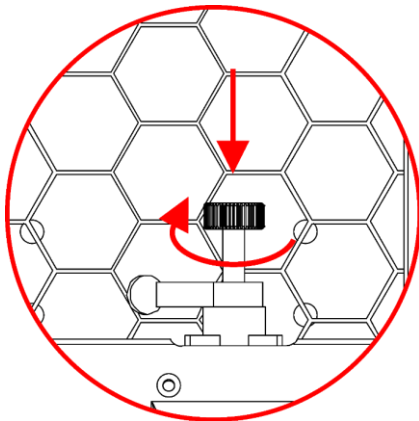

Fig. 14
- 02) Push the spring-loaded fast-locks of the Premiere LED panel and turn them by 90° clockwise or counterclockwise (Fig. 14). Make sure that the pins are firmly locked.